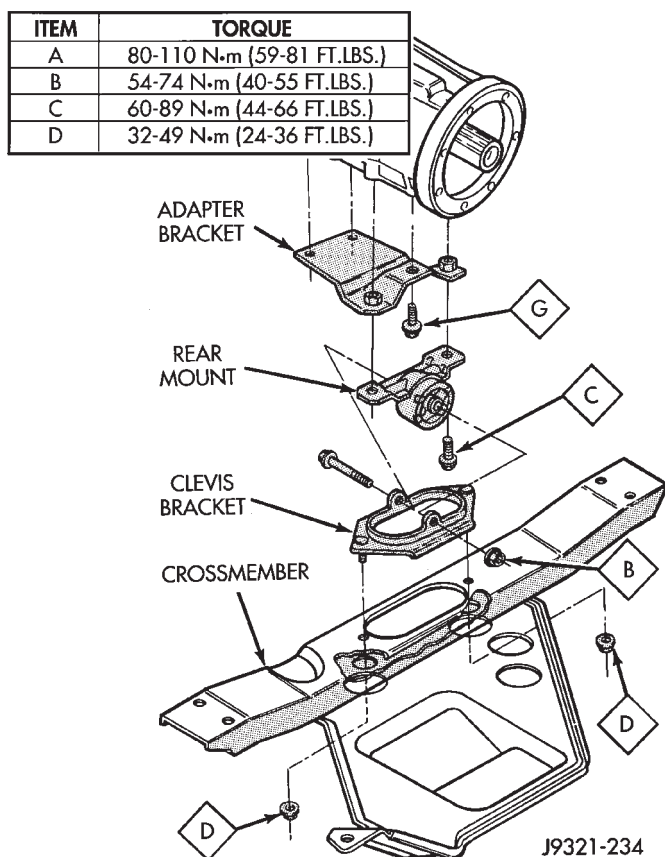
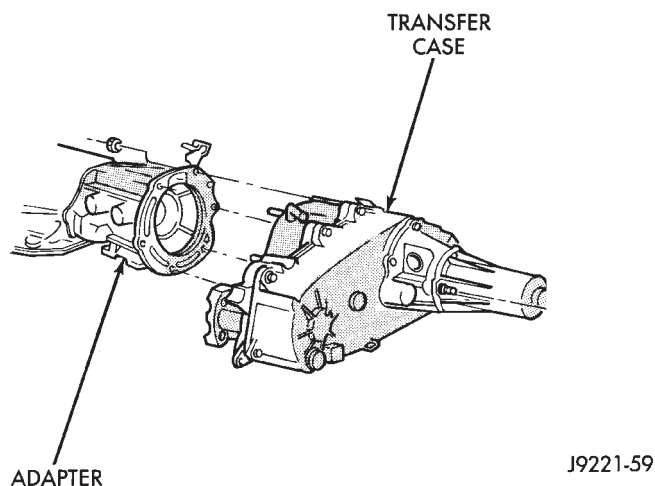

Fig. 8 Transmission Rear Mount Components
Fig. 9 Transfer Case Mounting
(19) position wire harnesses in clips on transmission and transfer case.
(20) Connect exhaust Y-pipe to engine exhaust manifolds.
(21) Install shift linkage torque bracket.
(22) Connect shift linkage to transmission.
(23) Connect solenoid and park/neutral position switch wires.
(24) Install crossmember on frame rails. Place crossmember at 45° angle to rails. Insert crossmember between rails and rotate crossmember into place.
(25) Install bolts/nuts attaching transmission to rear mount (Fig. 8).
(26) Install bolts/nuts attaching crossmember to frame rails.
(27) Remove transmission jack.
(28) Install transfer case (Fig. 9). Align and position transfer case with transmission jack or with aid of helper. Tilt case upward and work into position on transmission mounting studs.
(29) Install and tighten transfer case attaching nuts to 47 N•m (35 ft. lbs.) torque.
(30) Install damper on transfer case rear retainer if removed. Tighten damper nuts to 54 N•m (40 ft. lbs.) torque.
(31) Install and connect transfer case shift linkage.
(32) Connect transmission cooler lines to quick disconnect fittings as follows: